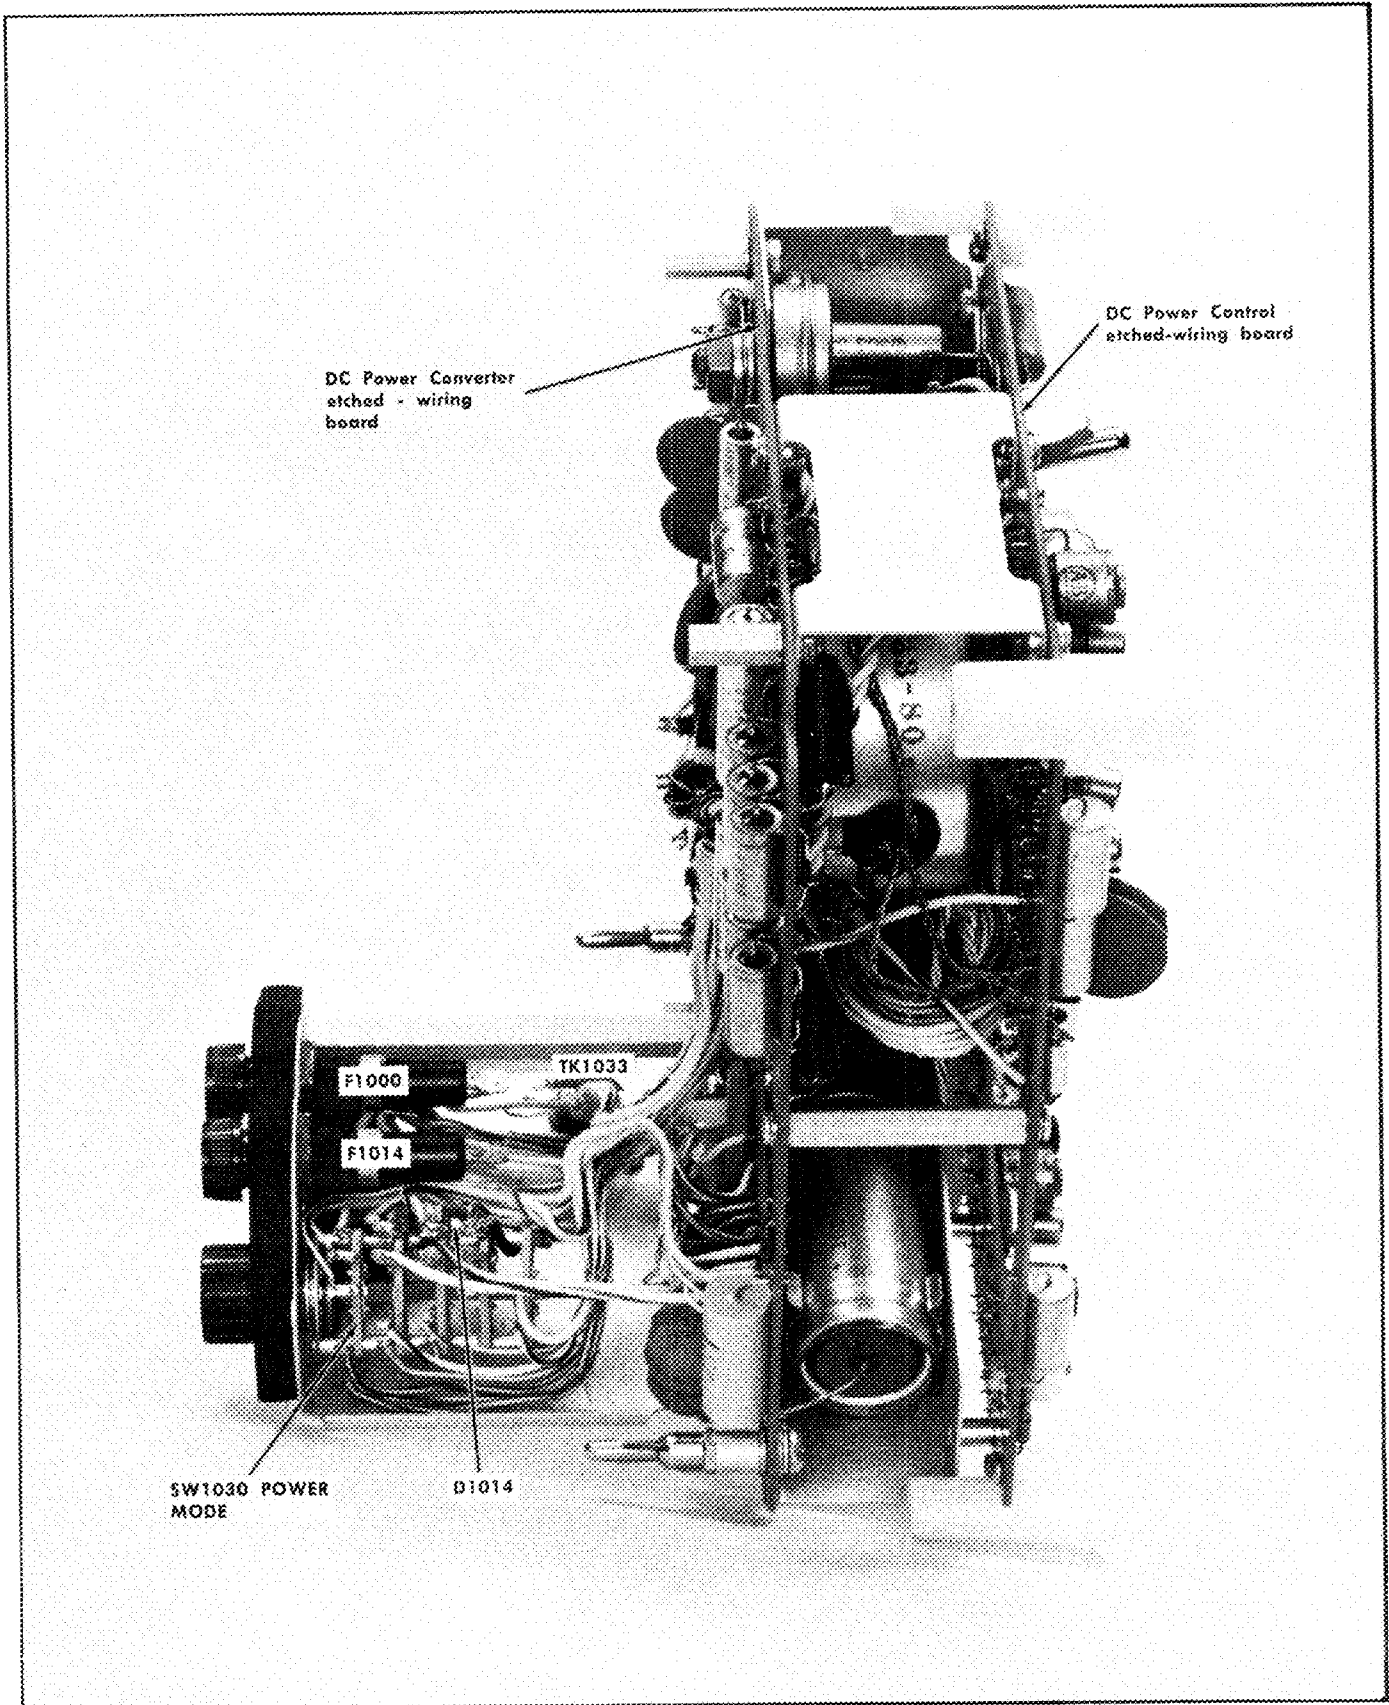

Fig. 4-4. Location of the switch bracket components and of the etched-wiring boards.
**Etched-Wiring Boards.** Figs. 4-2 and 4-3 show the etched wiring boards used in the AC-DC Power Supply. Fig. 4-4 shows the location of each board within the power supply. Each electrical component on the boards is identified by its circuit number.